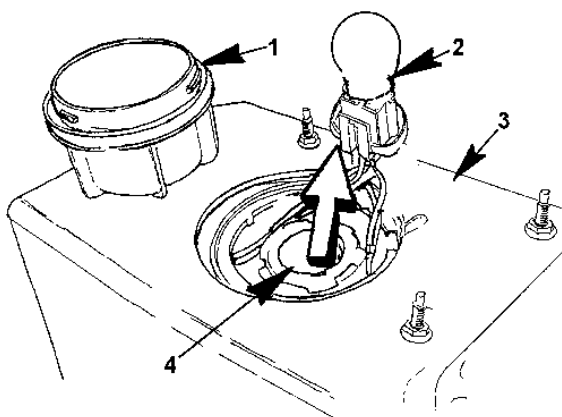

Figure 59 Directional Bulb Removal
- 5. To remove (Figure 59, Item 2) or install directional bulb, push downward on bulb, twist and lift out.